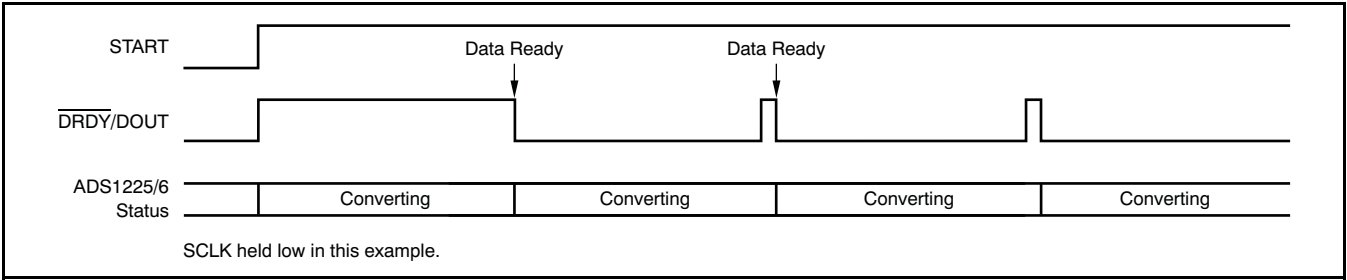

Figure 27. Conversion with the START Pin High
The ADS1225 and ADS1226 can be configured to continuously convert by holding the START pin high as shown in Figure 27. With START held high, a new conversion starts immediately after the previous conversion completes. This configuration continues until the START pin is taken low. During calibration, the START pin must be kept high. Refer to the Self-Calibration section for details. Note that when START is low, the buffer must be disabled to prevent loading of the inputs.
- Changed Figure 27 title 14